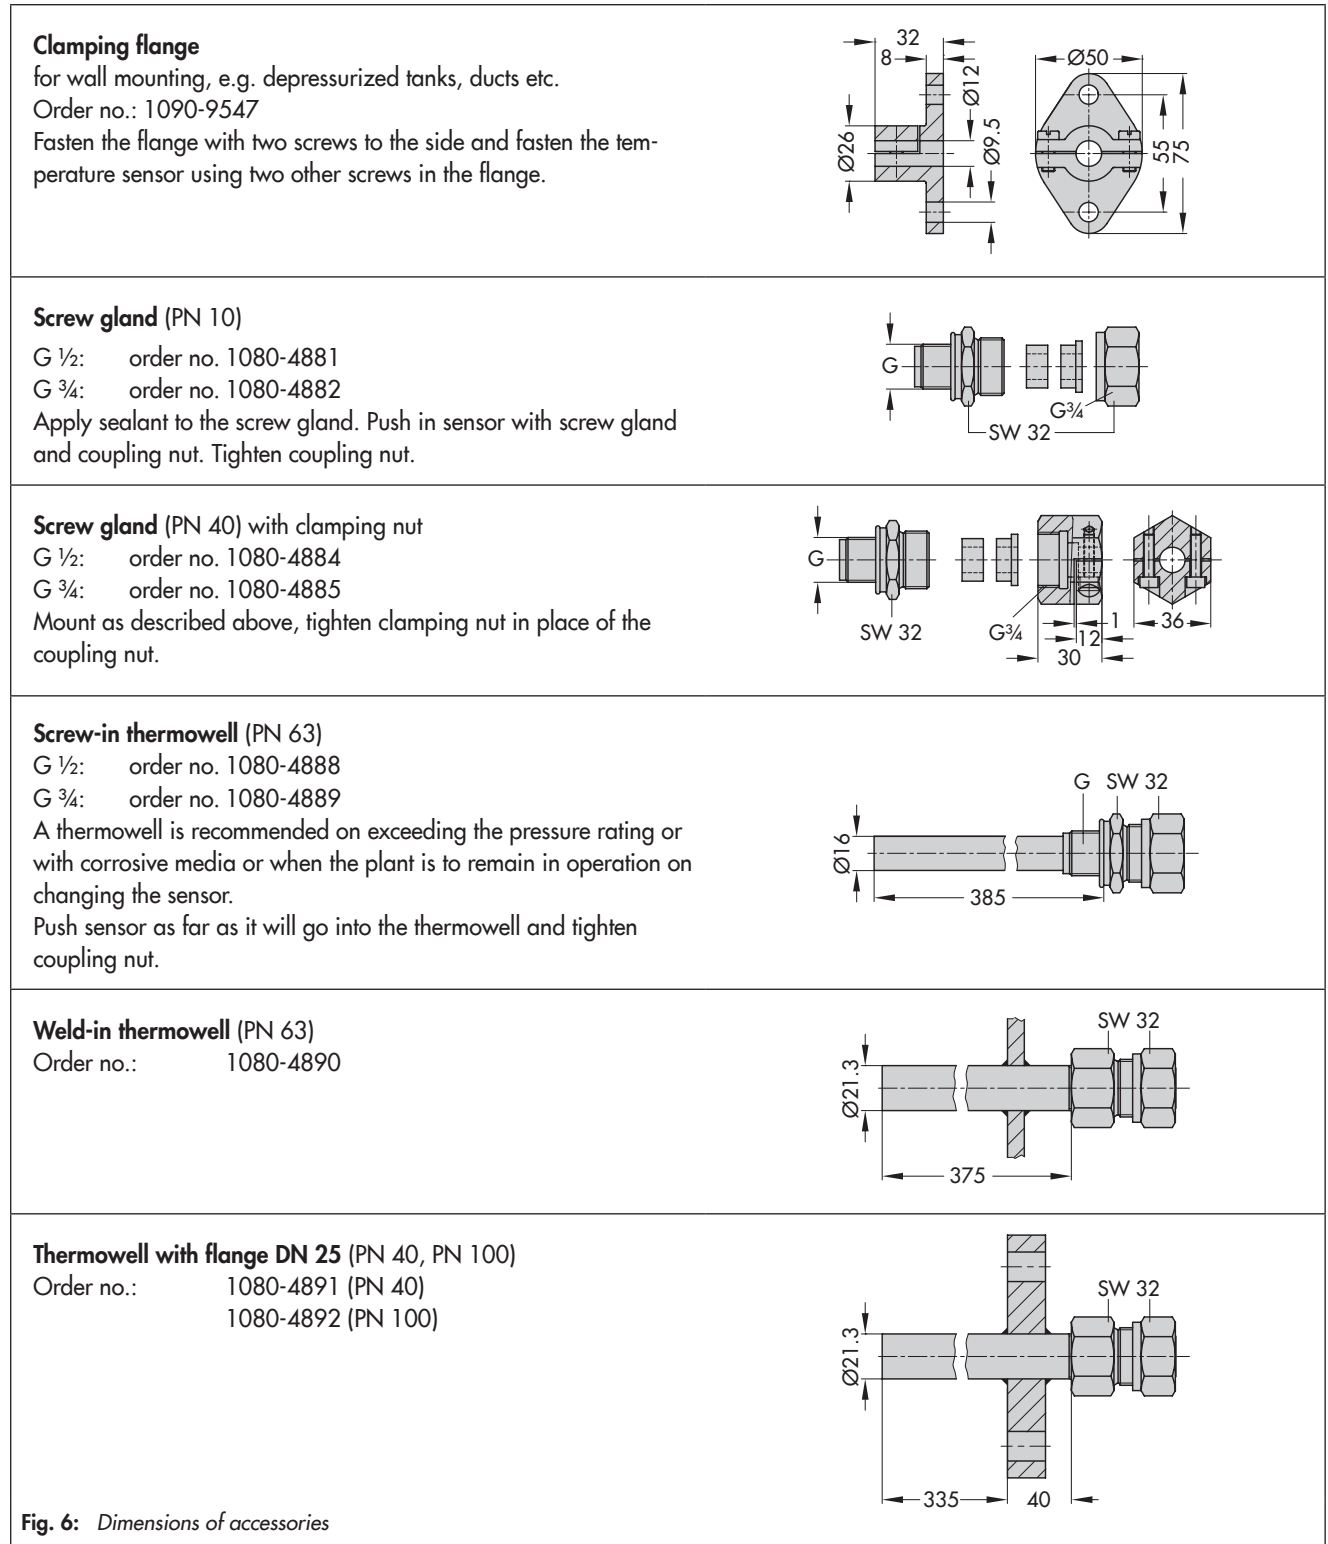

Fig. 6: Dimensions of accessories
- Mounting parts for bulb sensor (see Fig. 6)